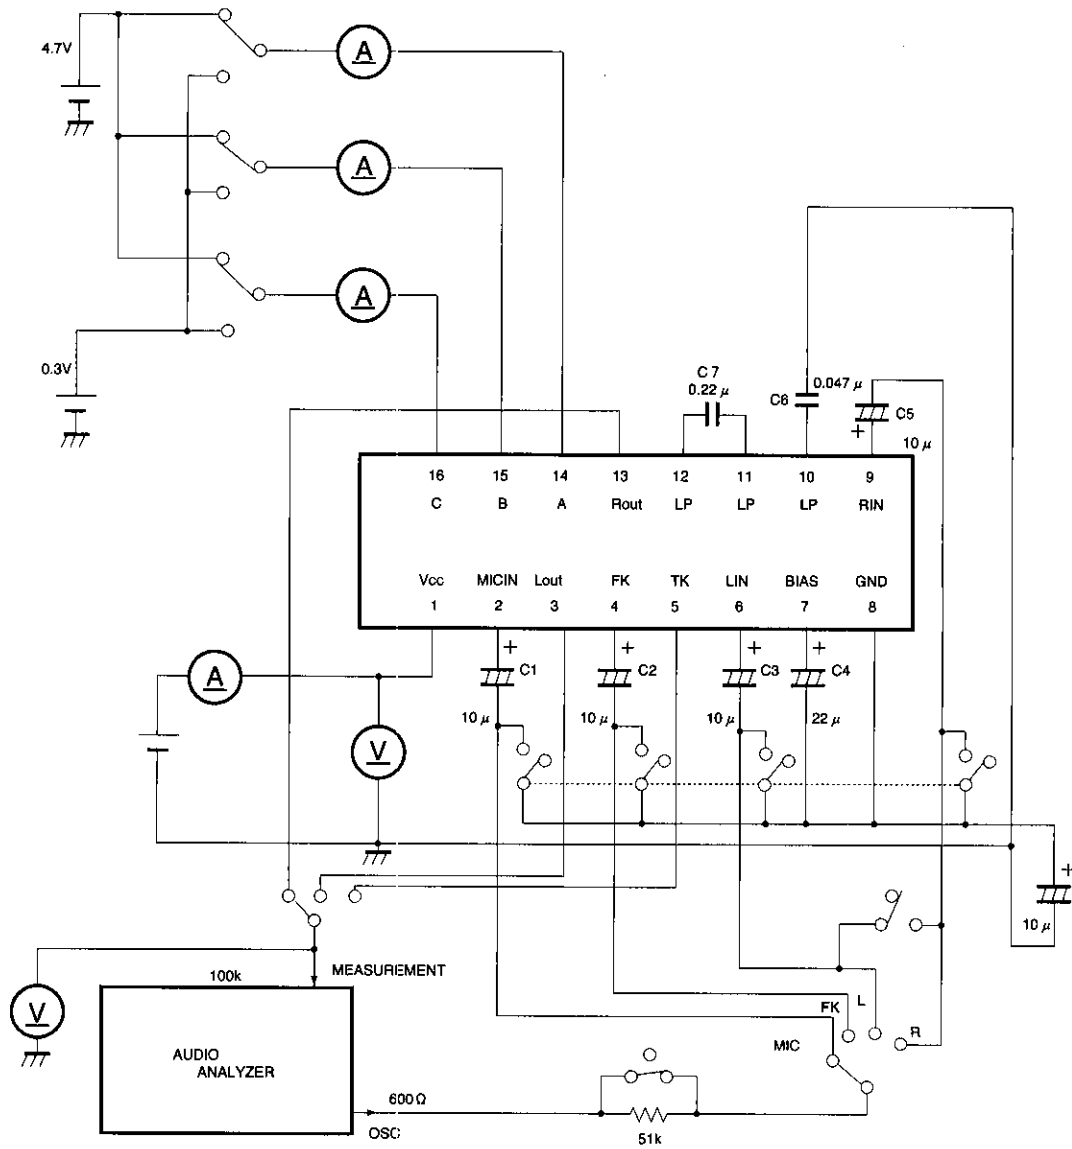

Fig. 1
* Gain and relative phase: See block diagram in Fig. 1.
2. The low pass filter cutoff frequency is determined by the internal circuitry and by C_6 and C_7 in Fig. 1. With the constant used in Fig. 1, the cutoff frequency (f_c) is roughly 150Hz. This cutoff frequency can be changed by changing C_6 and C_7 . When C_6 is multiple a, and C_7 is multiple b, respectively, the cutoff frequency is calculated thus :
7. Connecting a capacitance load to pin 5 (TK) of BA3837 / F can worsen noise characteristics. When connecting a capacitance load higher than 10 μ F, insert 1k Ω in series (Figs. 1 and 2). The pin 5 output impedance is roughly 5 Ω (1kHz). In the BA3838F it is roughly 400 Ω (1kHz).